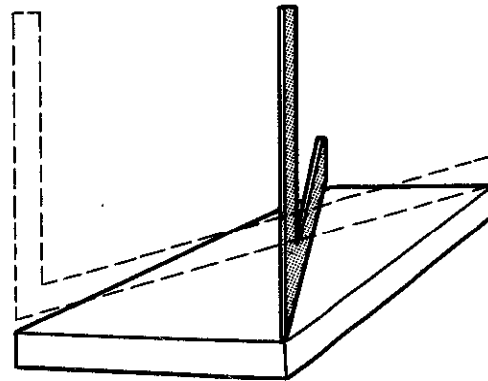

Fig. 5-20 Testing for wind with a framing square.
3. To test for wind with a framing square, place the outer edge of the blade on both diagonals of the surface to be tested. See figure 5-20.